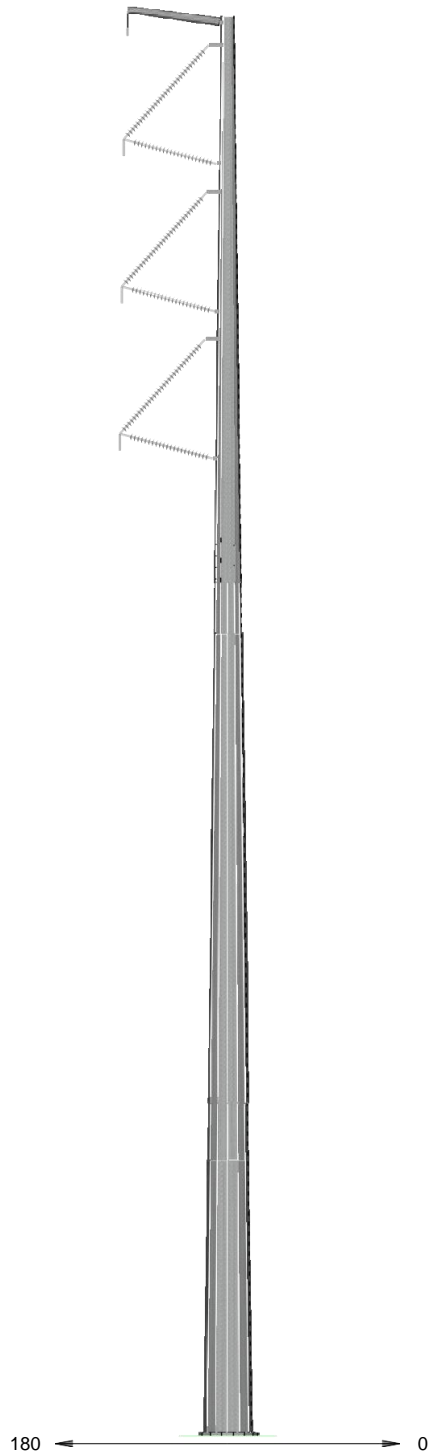

FIGURE G-3
- Figure G-3: Single-Circuit 230 kV Single-Pole, Tangent, Delta Configuration with Braced Post Insulators